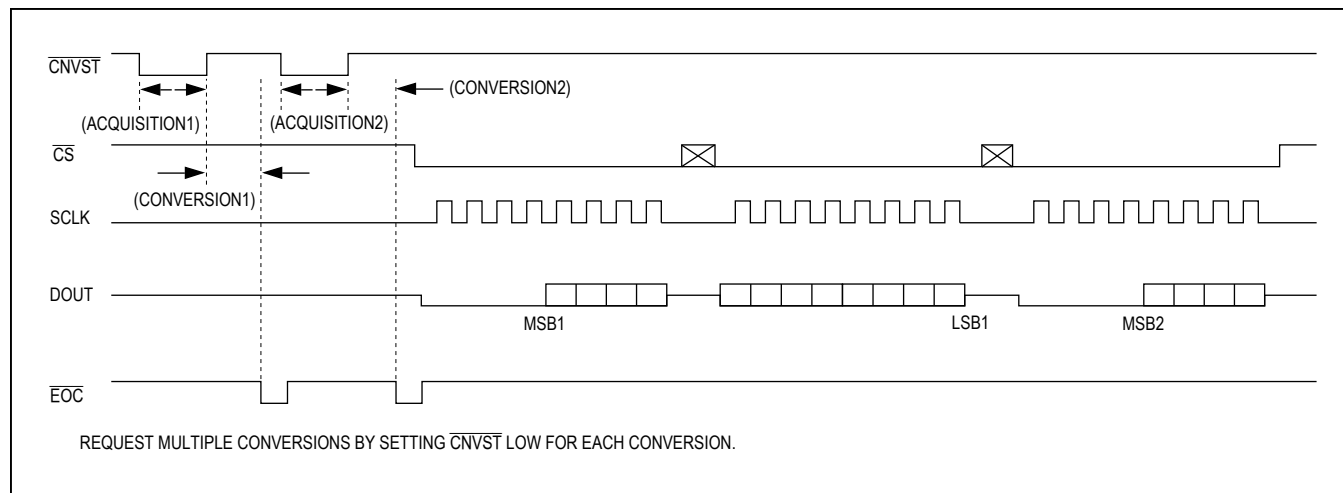

Figure 5. Clock Mode 01 Timing
**Performing Conversions in Clock Mode 01** In clock mode 01, conversions are requested one at a time using  $\overline{\text{CNVST}}$  and performed automatically using the internal oscillator. See Figure 5 for clock mode 01 timing.